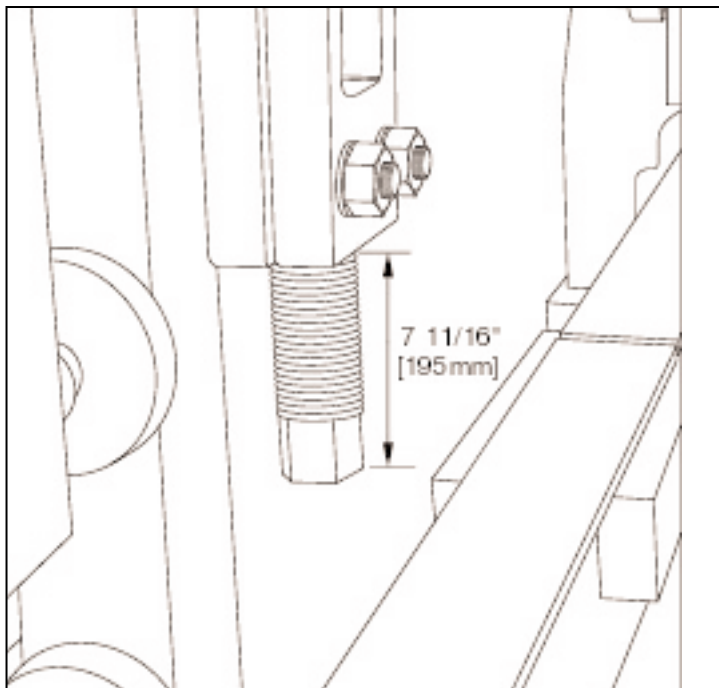

Figure 4.30 UPPER HEIGHT STOPS.
4.2.7 Adjust the upper height stops so that **7 11/16" [195mm]** extend past the bottom of the castings as shown on figure 4.30.